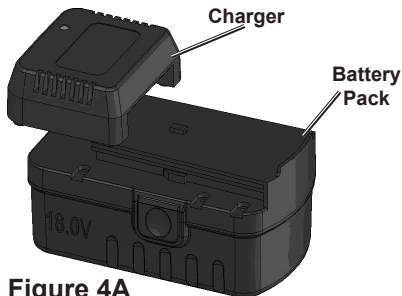

Figure 4A
4. Slide the Charger onto the Battery Pack until it firmly rests in place against the alignment tab (see Figures 4A and 4B). If the Charger does not fit properly, disconnect it and confirm that the Battery Pack is the correct model for this Charger as shown on the *Specification* chart. **Do not charge any Battery Pack not listed or any Battery Pack that the Charger does not securely fit.**